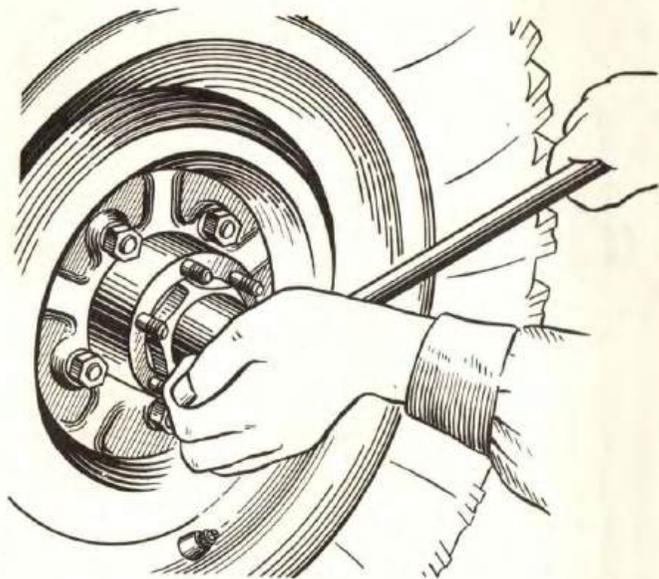

Fig. 40. Wheel Bearing Adjustment
6. Using a wrench and a handle 300-350 mm long, tighten the adjusting nut gradually with one hand until the wheel binds (Fig.40), while tightening the nut, rotate the wheel for the bearing rollers to become seated on the raceways.